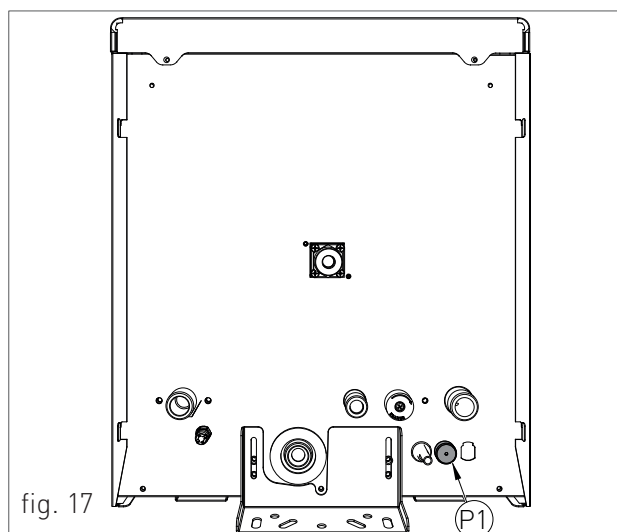

fig. 17
The cables should be inserted inside the boiler using the cable gland 'P1' placed under the board (see fig. 17). Make a hole on the cable gland, smaller than the cable diameter, to make sure that the air cannot pass through.
- › Remove the front casing of the boiler (see 2.2.13 ACCESSING THE BOILER); unscrew the screws and remove plate "A" (see fig. 17).